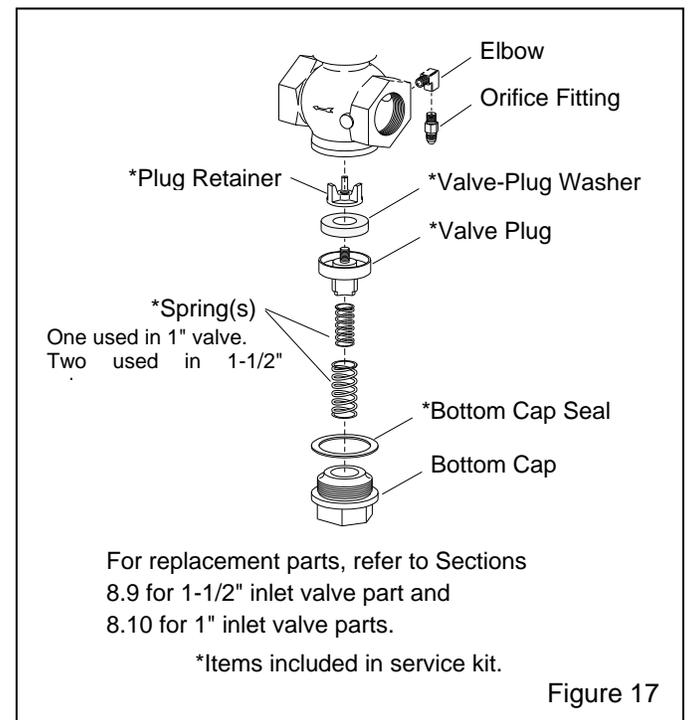

Figure 17
### **6.3.1 Bottom Section - Figure 17**
**6.3.1.5** If the top section of the valve requires service, proceed to Section 6.3.2; otherwise, refer to the illustration in Figure 17 to reassemble the valve in reverse order.
**6.3.2.8** Refer to the illustration in Figures 17 and 18 to reassemble the valve in reverse order.